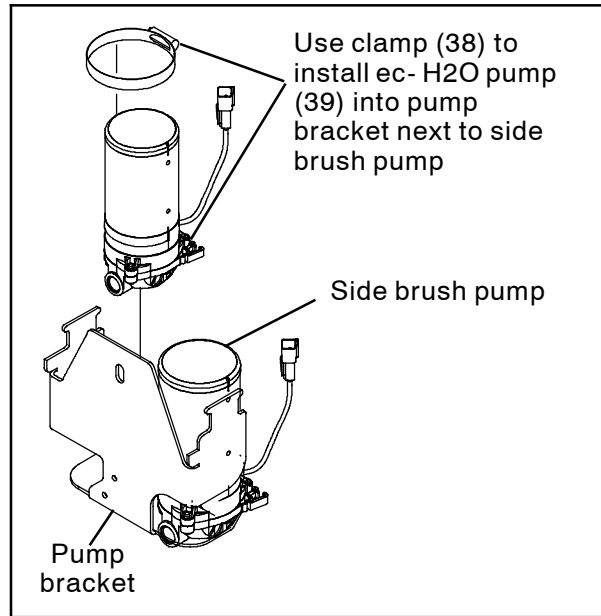
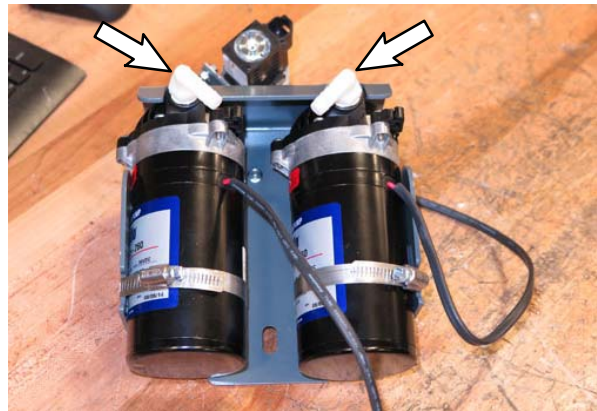

**FIG. 30**
**FIG. 31**
31. Install the elbow fittings (18) onto the ec-H2O pump (39). Note orientation of both fittings. Both fittings must be oriented as shown. (Fig. 30 / Fig. 31)